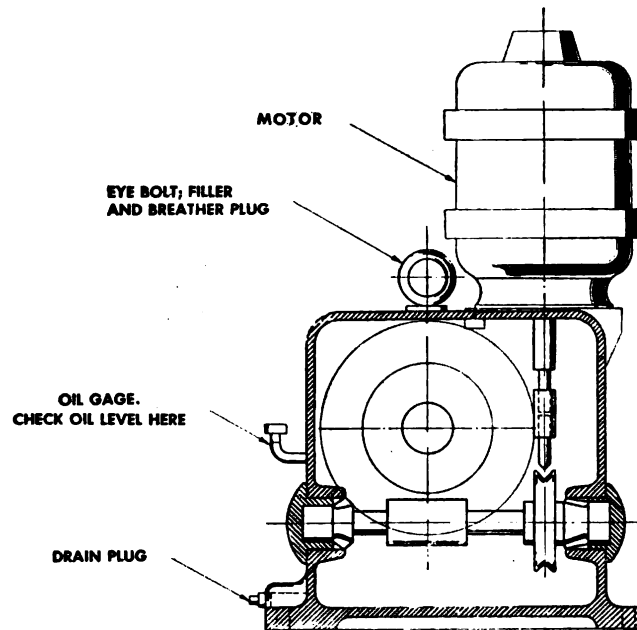

Figure 31. Link-belt double-worm-gear reducer.
(1) Check oil level in reducer oil gauge. (See fig. 31.)
(2) Change oil.